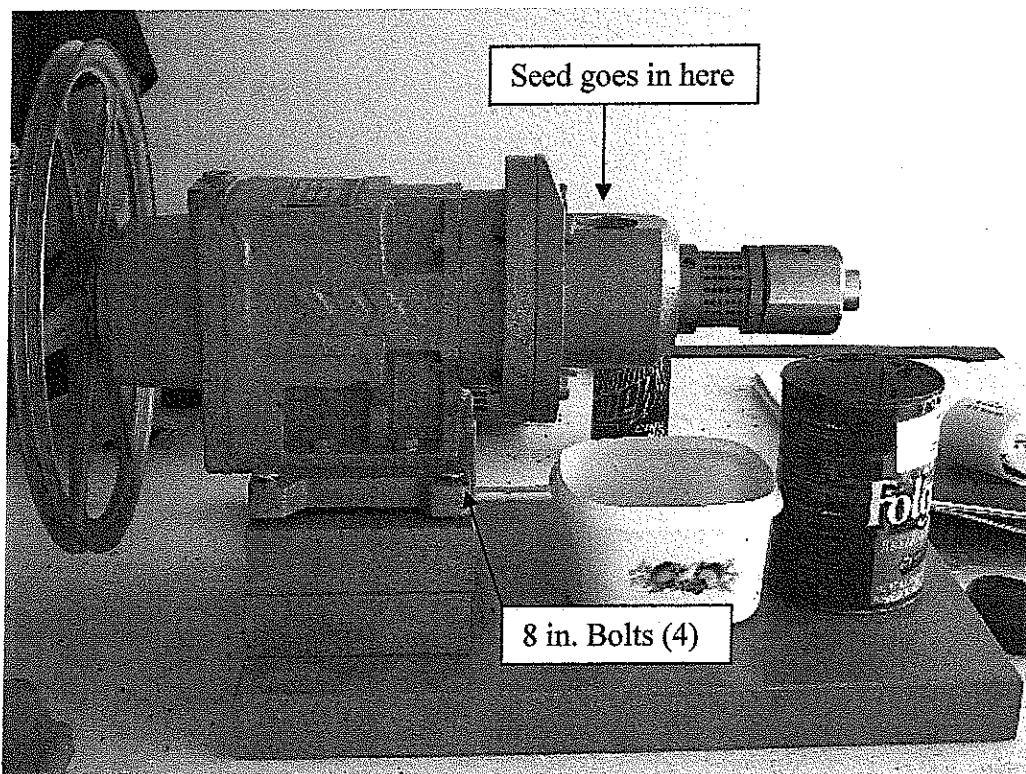

Figure 3. Expeller Unit
5. If it is desired to run the expeller by hand cranking, remove the belt. Loosen the set-screw on the 12" pulley and remove the pulley from the expeller. Place the 12" pulley, belt, and the shaft key in a safe location. Loosen the 4 – 8" bolts (see Fig. 3) and remove. The top portion of the expeller can now be lifted off of the base. Lift the top portion and rotate the base 180 degrees. Reorient the top portion of the expeller on the base and bolt down. Attach the hand crank provided with the unit (It should hang off of the edge of the cart). Tighten the Allen-head set-screw on the hand crank. The expeller is now ready to be used.